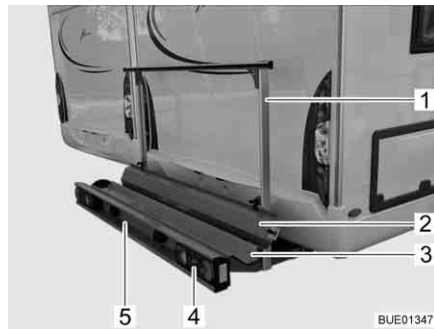
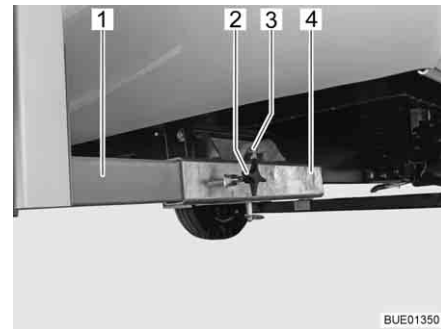

Fig. 5 Load rack
Fig. 6 Attachment to vehicle
The load rack (Fig. 5) permits transport of a motorcycle or a motor scooter weighing up to 130 kg.
- Rack trough (Fig. 5,3) and retaining clip (Fig. 5,1) with attachment to vehicle (Fig. 6)
- Rear lights (Fig. 5,4)
- Vehicle licence plate light (Fig. 5,5)
- Ramp (Fig. 5,2)
The two side members (Fig. 6,1) of the load rack are fixed to the floor of the vehicle by means of tommy screws (Fig. 6,2) on the square drives (Fig. 6,4). The load rack is secured by a bolt (Fig. 6,3) with locking ring.